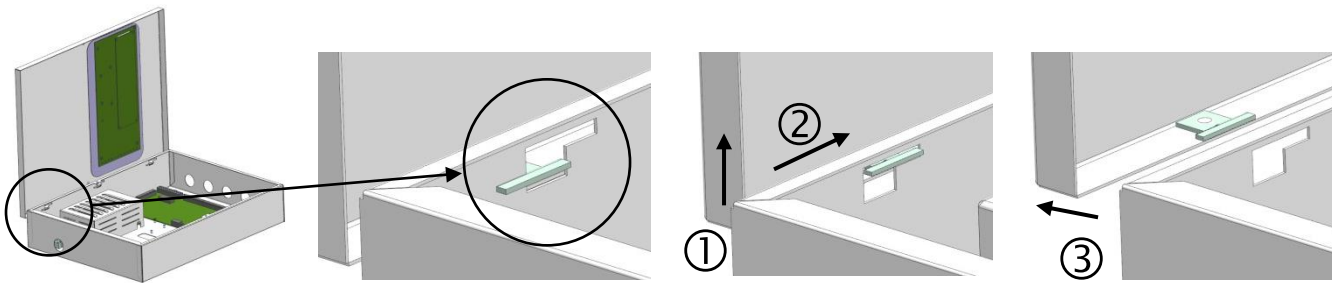

Figure 3
- Remove the front cover as dismount the side hinges (Figure 3).
- Mount the front cover back to the bottom as mount the hinges in the reverse order of that described on Figure 3.